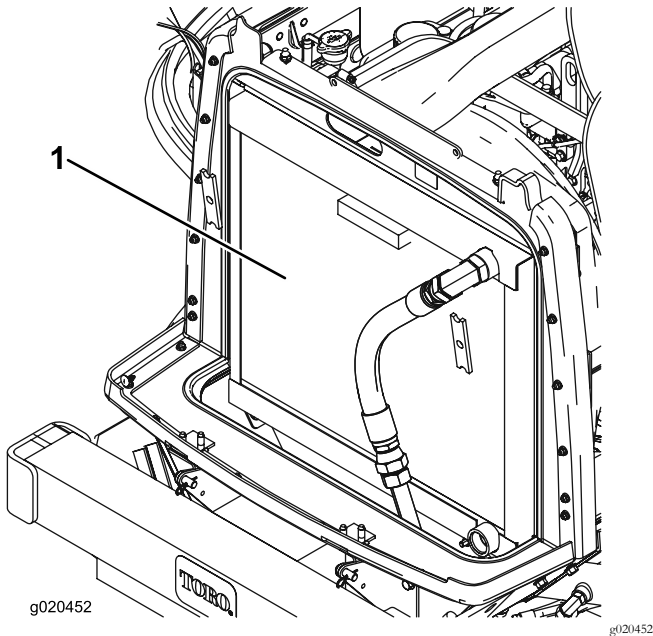

Figure 66
2. Clean both sides of the radiator/oil cooler area (Figure 66) thoroughly with compressed air. Start from the fan side and blow the debris out towards the back. Then clean from the back side and blow towards the front. Repeat procedure several times until all chaff and debris is removed.